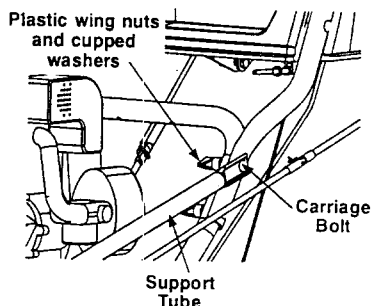

FIGURE 9
- Remove the upper two plastic wing nuts, cupped washers and carriage bolts from each side of the handles. See figure 9.